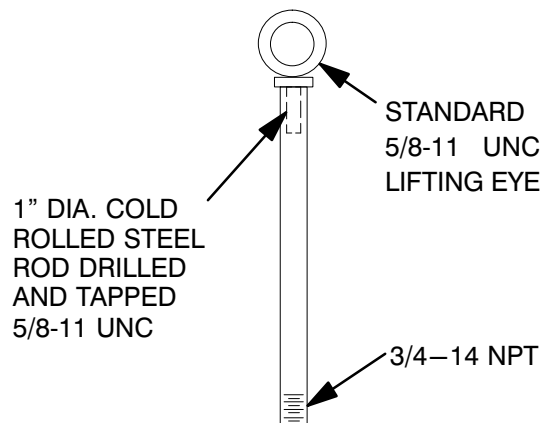

Figure 7. Casing Removal Tool
If the discharge port is in a horizontal position, fabricate a lifting device as shown in Figure 7 and screw it into the hole for the pipe plug (4). **Make certain** that the threaded end of the tool fully engages the threads in the casing. Use a suitable sling and hoist to remove the casing.